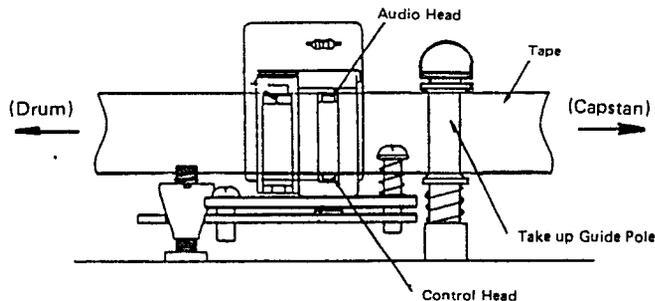

Fig. 37 Control head phase adjustment
8. Tighten adjustment nut slide the A/C head assembly slowly in the direction of the arrow as shown in Fig. 37.
9. Set the A/C head assembly to the position where first maximum FM level is obtained. Put screw Locking glue on the nut (D).